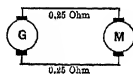

FIG. 33. Generator *G* and motor *M* in series circuit.
**Prob. 6-2.** Motor *M* (Fig. 33) requires a current of 50 amperes at 230 volts. The line wires have a resistance of 0.25 ohm each. What pressure must be supplied by the generator?